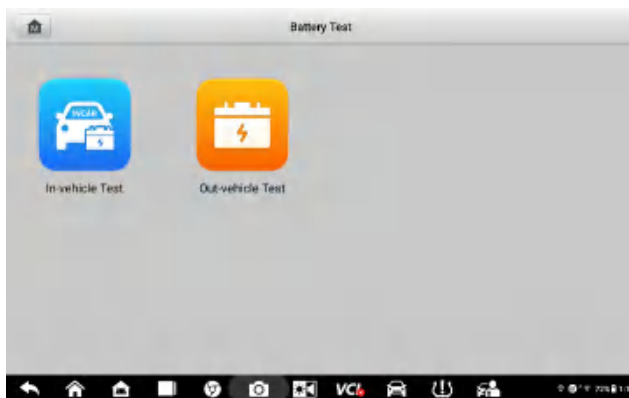

Figure 9-3 Battery Test Screen
1. Tap the **Battery Test** application on the MaxiSys Job Menu. The Battery Test screen displays (see Figure 9-3 Battery Test Screen).